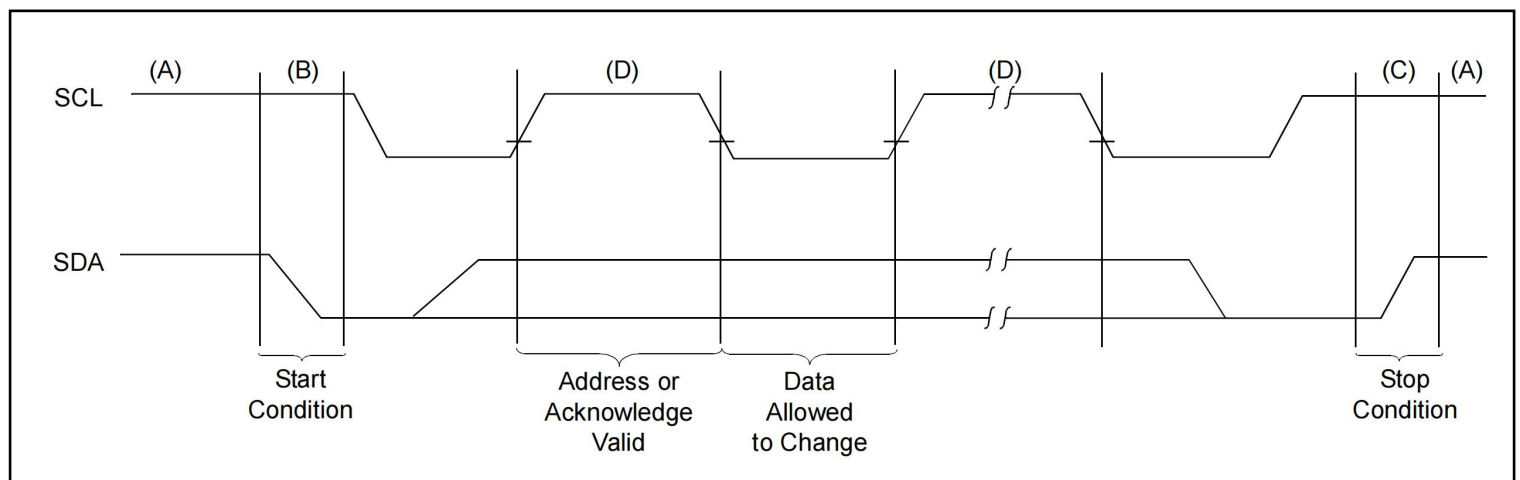

FIGURE 3: DATA TRANSFER SEQUENCE ON THE SERIAL BUS
- During data transfer, the data line must remain stable whenever the clock line is high. Changes in the data line while the clock line is high will be interpreted as a Start or Stop condition. Accordingly, the following bus conditions have been defined (Figure 3).
Write Protection : The WP pin allows the user to write-protect the entire array (000-FFF) when the pin is tied to VCC. If tied to VSS the write protection is disabled. The WP pin is sampled at the Stop bit for every Write command (Figure 3). Toggling the WP pin after the Stop bit will have no effect on the execution of the write cycle.